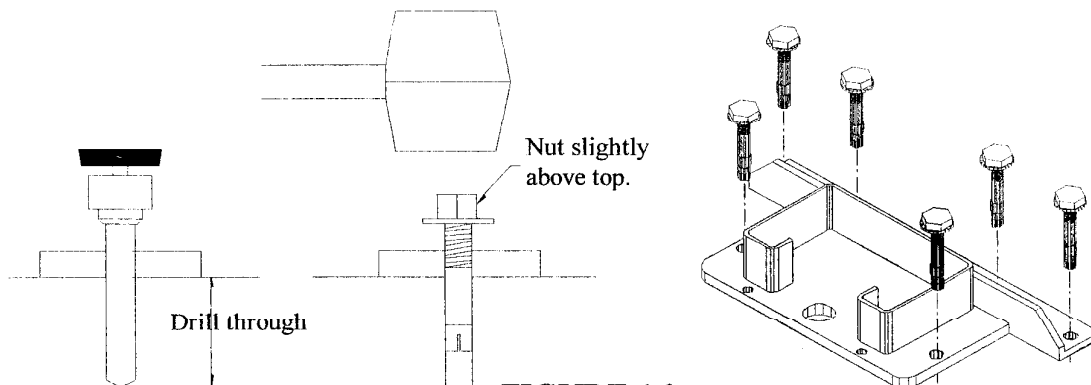

FIGURE 16
10. Assemble the washer and nut onto the anchor bolt. Thread the nut approximately 4/5's of the way onto the anchor bolt where the top of the nut is just above the top of the bolt. Using a hammer on the nut, carefully tap the anchor bolt into the concrete. DO NOT DAMAGE THE NUT OR THREADS. Figure 16 on previous page.